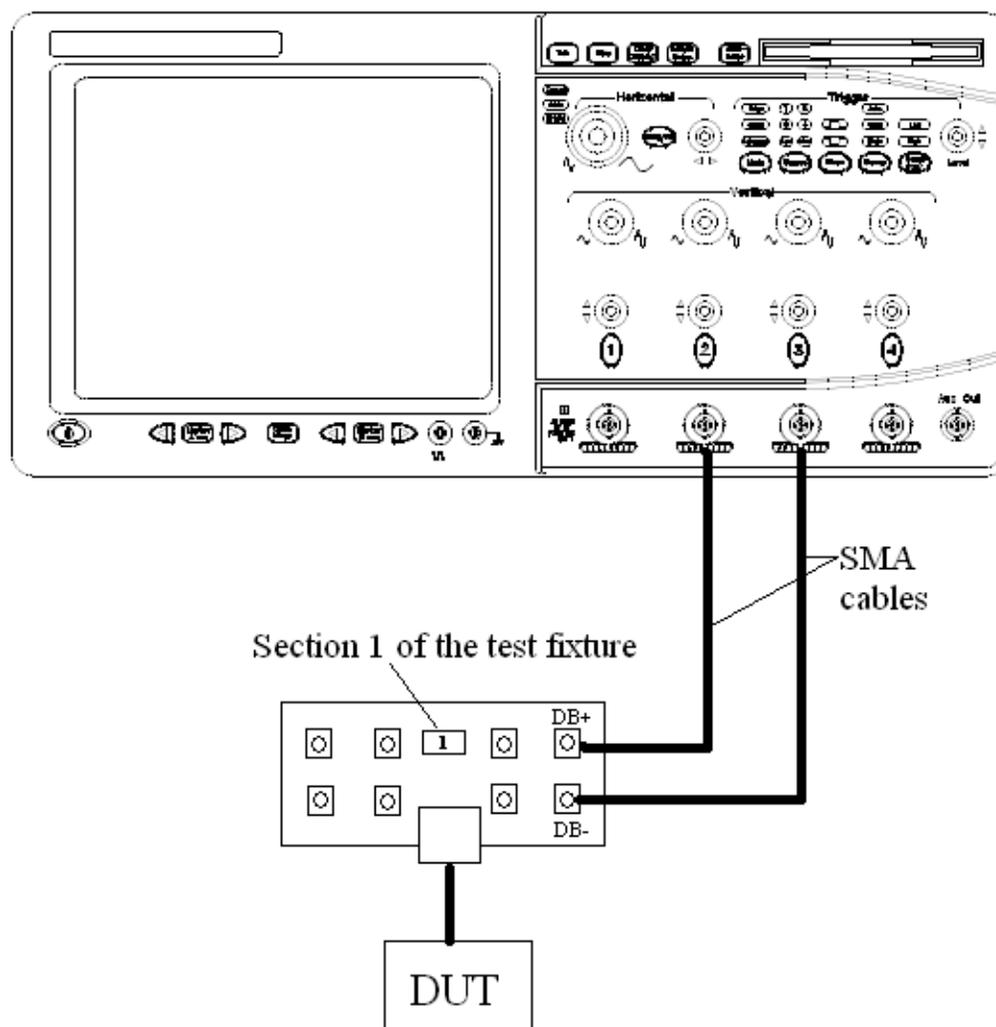

Figure 28 Probing for 1000 Base-T Jitter MASTER Unfiltered without access to TX_TCLK
When performing 1000 Base-T jitter tests for the DUT without providing access to the internal TX_TCLK, you can view the connection setup under the application's "Connection" tab (also shown in Figure 28).
- 2 Connect one end of two short SMA-SMA cables to the SMA test points for the pair you are testing (A, B, C, or D) on fixture 1 and the other end to the Channel 3 and Channel 4 of the oscilloscope. (The channel shown in Figure 28 is just an example.)
- 2 As shown in Figure 28, configure the "DB+" to Channel 2 and "DB-" to Channel 3 (this channel mapping will vary as per the selected test pair).
As indicated in Figure 28, only the MDI data signal is connected to the oscilloscope. The algorithm proceeds as follows:
As indicated in Figure 28, only the signal at MDI is connected to the oscilloscope. The algorithm proceeds as follows: